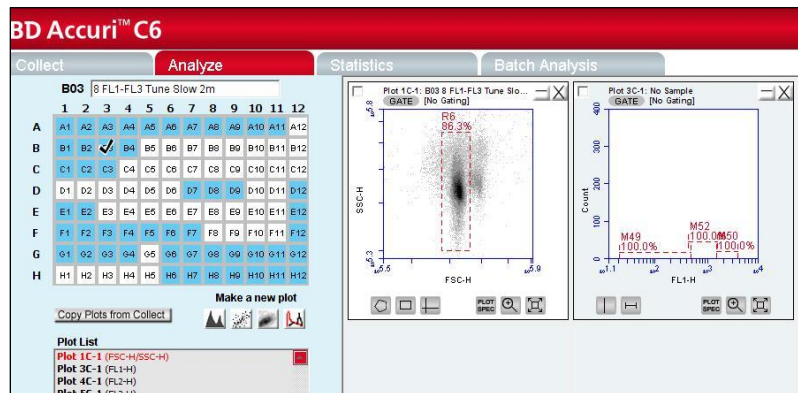

Figure 4-8. Analyze Tab: Plots with Gating Applied
- Select a plot in the Plot List (Figure 4-8). BD Accuri C6 Software displays the plot without any sample data.